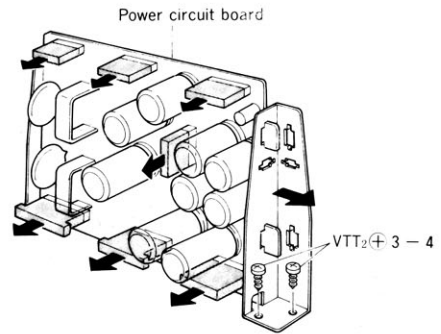

Fig. 6
- 1) Remove 7 connectors. (Refer to Fig. 6)
- 2) Remove 2 screws, and pull the circuit board in the direction indicated by the arrow to remove. (Refer to Fig. 6)